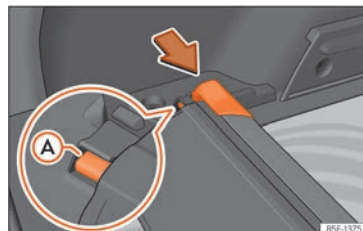

Fig. 128 In the luggage compartment: space to store the retractable shelf.
- Press the head of the retractable shelf in the direction of the arrow until it engages in its housing »» Fig. 128. Make sure that slide **A** fits into the corresponding housing.